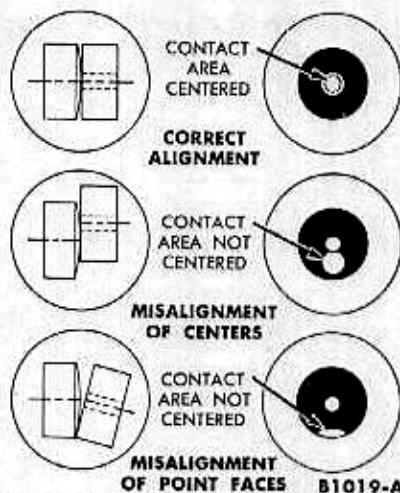

FIG. 13—Breaker Point Alignment
1. Turn the cam so that the breaker points are closed and check the alignment of the points (Fig. 13). Align the breaker points to make full face contact by bending the stationary breaker point bracket (Fig. 14). **Do not bend the breaker arm.**